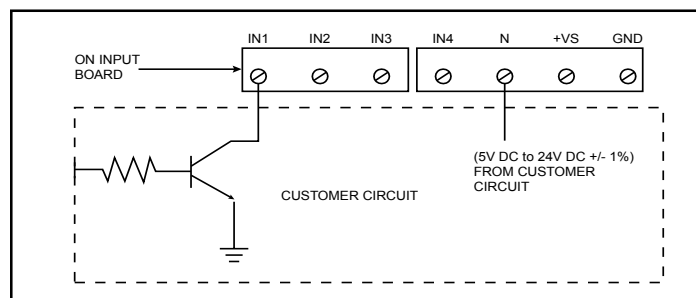
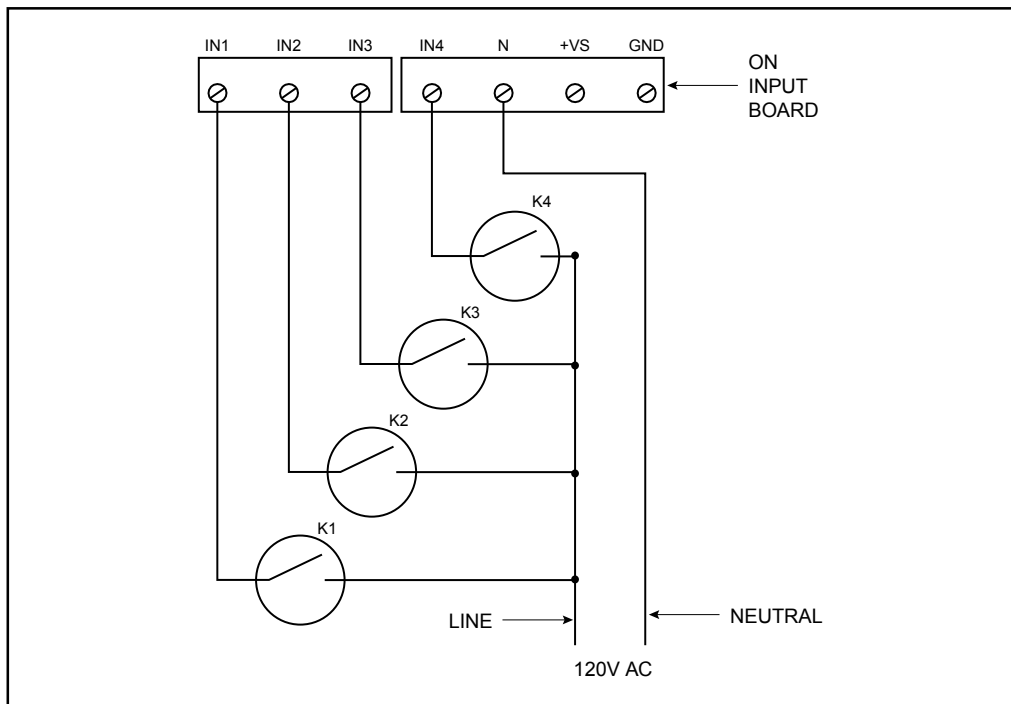

Figure 6. Installing with an Open Collector Transistor, 24V Input Board
Figure 11. Installing with Multiple Dry Contacts, 120V Input Board
- b. Select the appropriate method of wiring to the input board from Figures 6 - 10 for models with 24V input boards and Figures 11 and 12 for models with 120V input board. Connect the Adaptatone as shown.